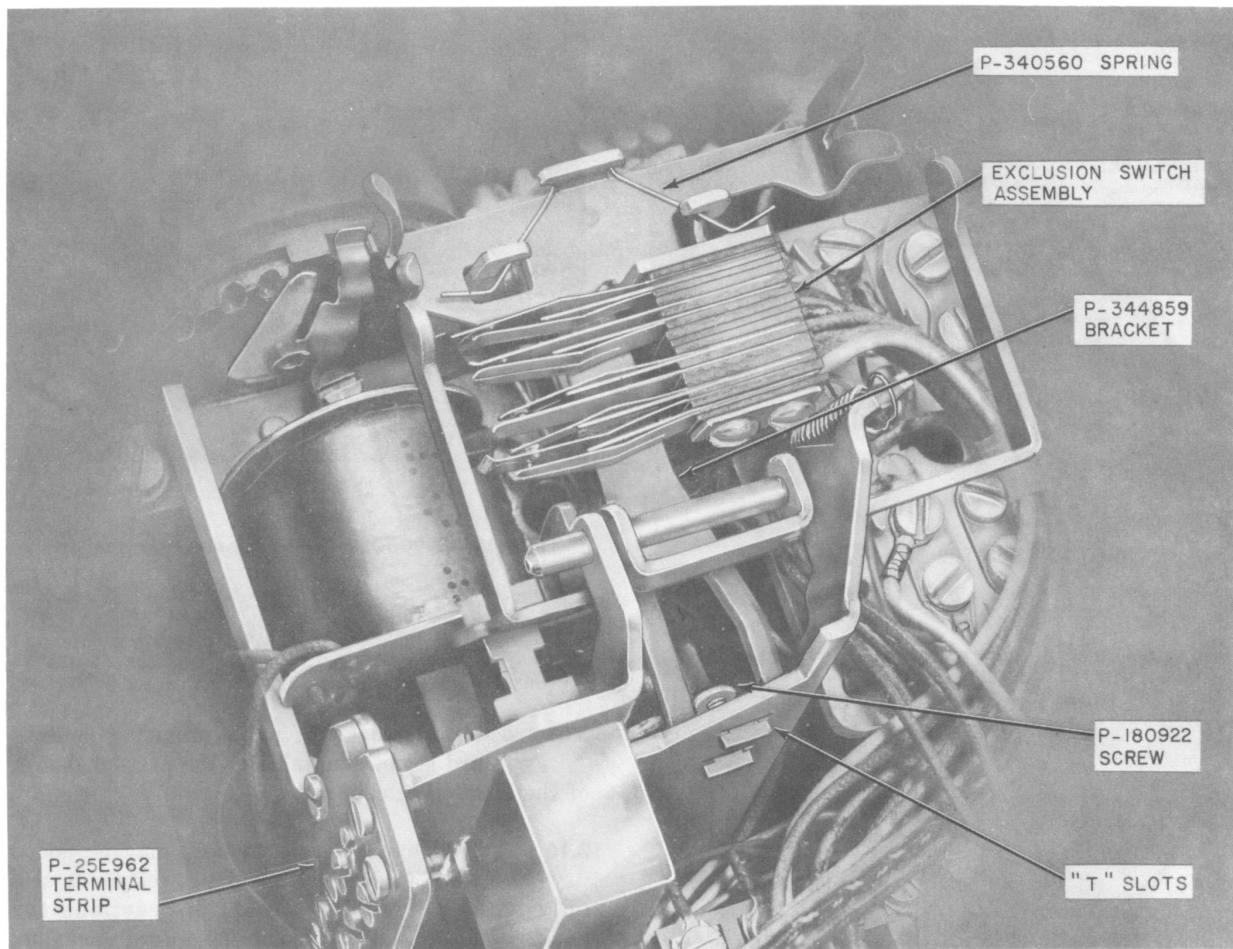

Fig. 9—D-179935 Kit of Parts and Auxiliary Terminal Strip, Installed
- (1) Remove faceplate and housing.
- (2) Insert the P-344859 bracket into the two T slots precut in the line switch bracket (Fig. 9).
- (3) Tighten the P-180922 screw which holds the bracket in the T slots.
- (4) Mount the P-340560 spring and exclusion switch on the bracket (Fig. 9).
- (5) Remove the P-13E953 plunger from the left side of the telephone set housing and replace it with the P-14A613 exclusion plunger.
- (2) Secure the terminal strip to the line switch assembly bracket, as shown in Fig. 9, using two self-tapping screws.
- (3) Replace housing and faceplate.